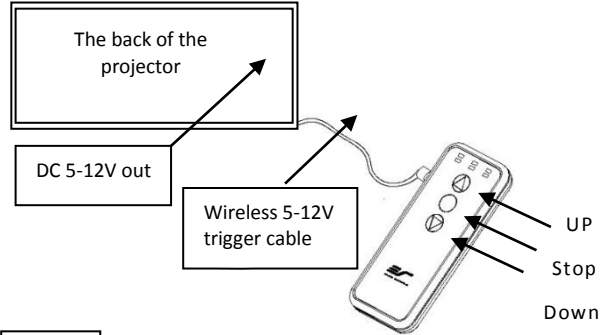

Fig 5
6. Wireless 5-12 volt trigger (Item F, Fig 5): The RF remote control serves as a dual purpose, independently as a handheld remote control, or as a Wireless 5-12 volt trigger using the trigger cable. The radio frequency technology can be programmed to send a wireless signal that synchronizes screen drop & rise with the projector's power cycle.